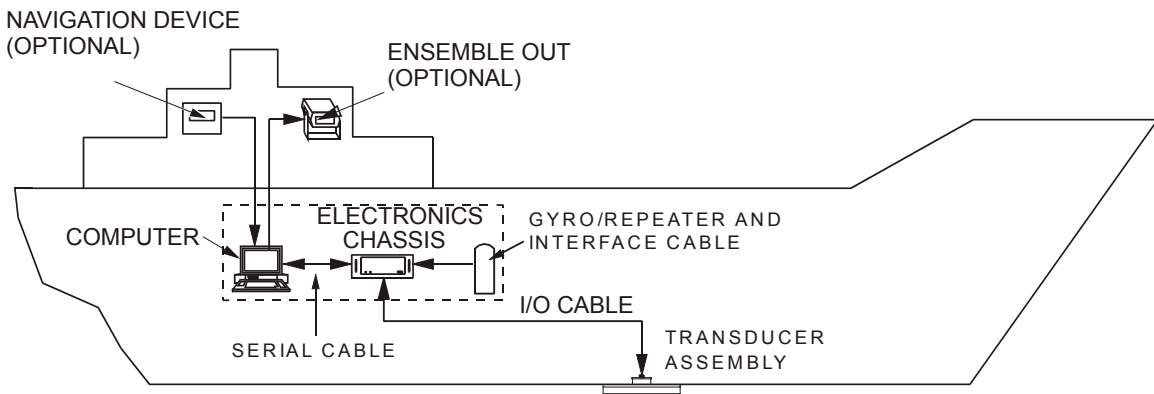
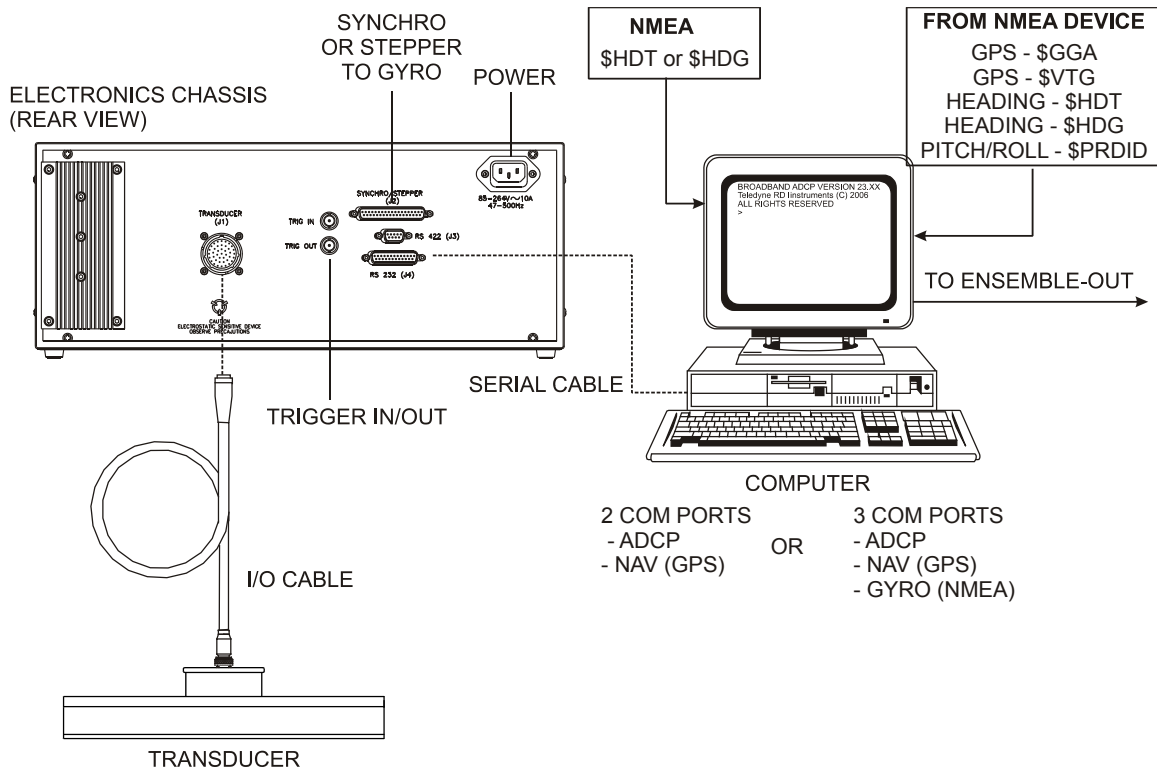

Figure 2. Typical Ocean Surveyor/Observer Interface Cable Layout (Overview)
Figure 3. Typical Ocean Surveyor/Observer Interface Cable Layout (Detail View)
Several cables connect to the Ocean Surveyor/Observer system (Figure 2 and Figure 3). Use care when routing these cables through bulkheads, deck plates, cable runs, and watertight spaces. Make allowances in cable length and engineering design plans for cable routing. When necessary, use strain reliefs on the cables.
- e. Connect the power cable to the electronics chassis and apply power to the system (see Figure 3).